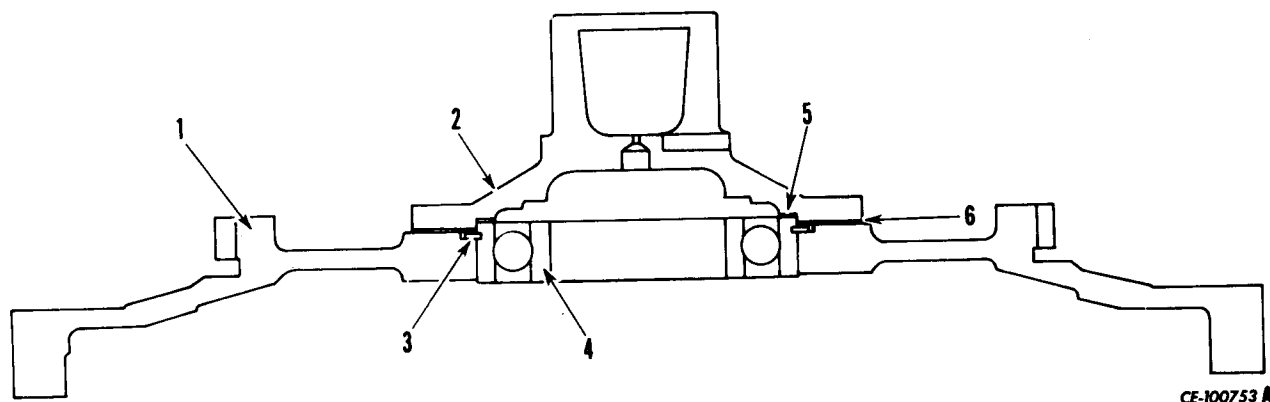
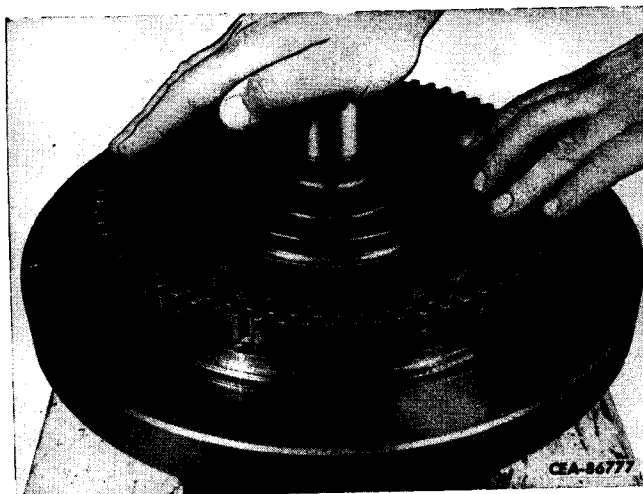

Figure 3-55
Figure 3-56
Place drive housing (1, Fig. 3-55) on bench with gear teeth up. Snap ring (3) on bearing (4) must be bottomed in drive housing (1) groove. Place original shim pack in position (5) on outer race of bearing. Place input hub (2) (old style shown), in position over shims and bearing. Apply a firm hand pressure to top of hub and using a shim (or shims) (2, Fig. 3-56) or feeler gauge, check clearance at "6" between hub and drive housing flange surfaces (Fig. 3-55).